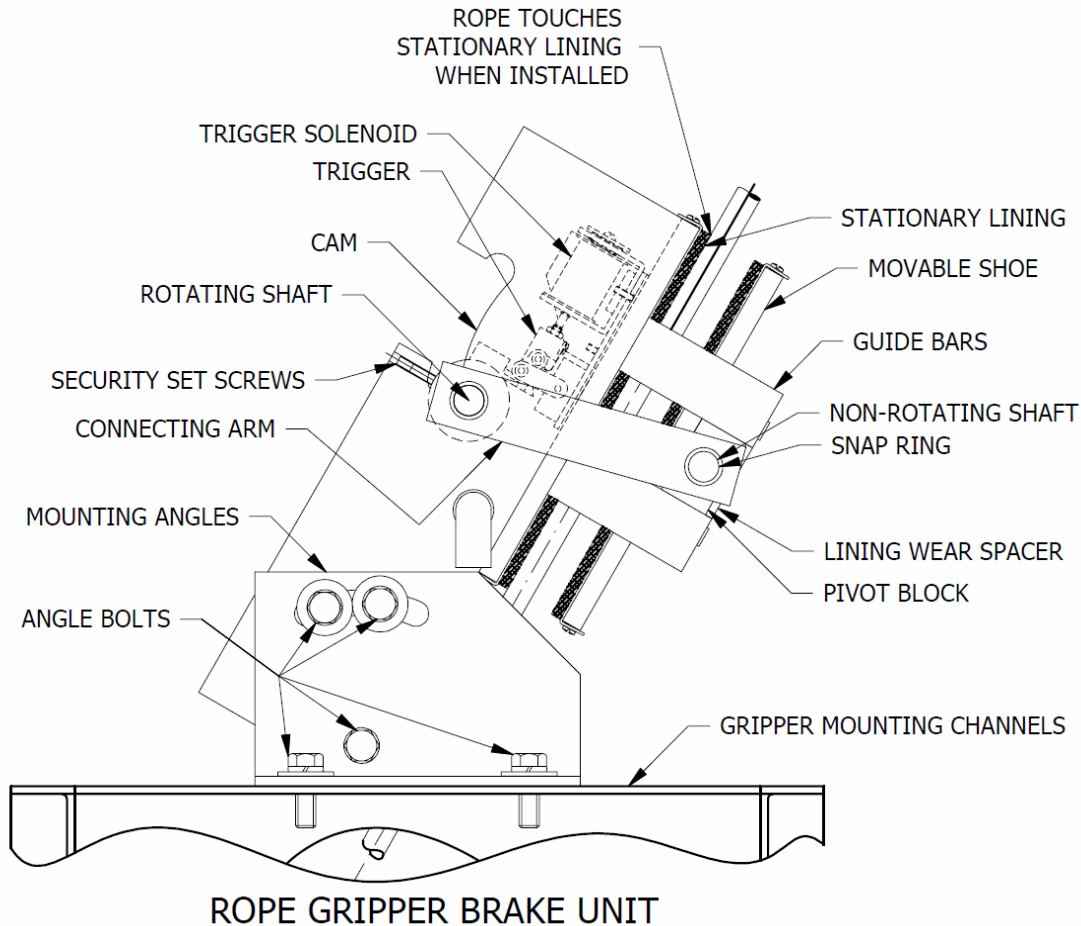
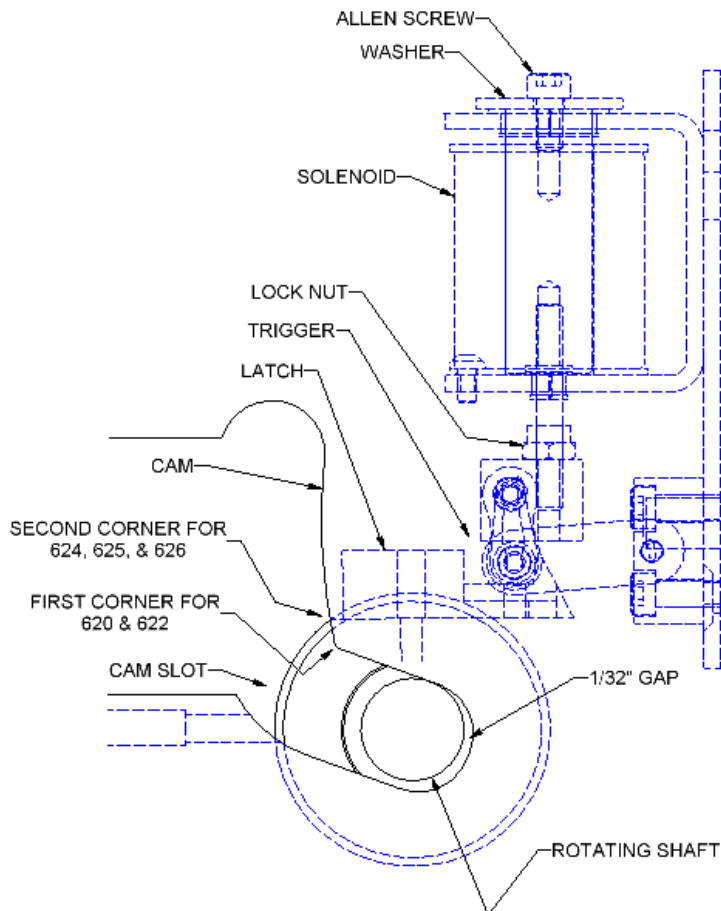

FIGURE 1
FIGURE 5
- Be sure security set screws are holding the rotating shaft in the LOADED position as shown in **Figure 1** above.
- A line has been marked on the side wall of the gripper to aid in the Wear-In process. Note that at this point in the procedure, this line is well **above** the Connecting Arm and will be met or covered by the Connecting Arm during the Wear-In process (see **Figure 1** for location of Connecting Arm).
- As the linings wear-in, the rotating shaft will move up the cam slot and around the corner(s) of the cam noted above (**Figure 5**), and the connecting arms (see **Figure 1**) will move up the side wall and begin to match or line up with the wear-in line marked on the side wall.
Note: #624, #625, and #626 have **two** corners. These grippers are **not** worn-in until the rotating shaft goes past the **second** corner of the cam as noted above (see **Figure 5**) and the connecting arm meets or covers the line marked on the side wall.